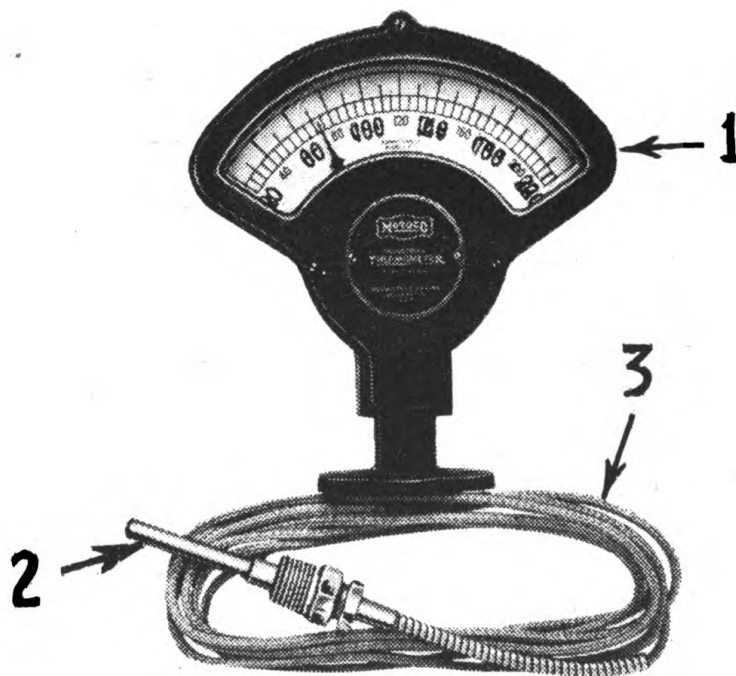

FIG. 22 - THERMOMETER FOR INDICATING TEMPERATURE OF AGGREGATE AS IT LEAVES THE DRYER. THERMOMETER READS TO 550°.
Each temperature indicator assembly consists of the indicator proper (1) Fig. 22, a bulb (2), and a capillary tube (3) connecting the two.